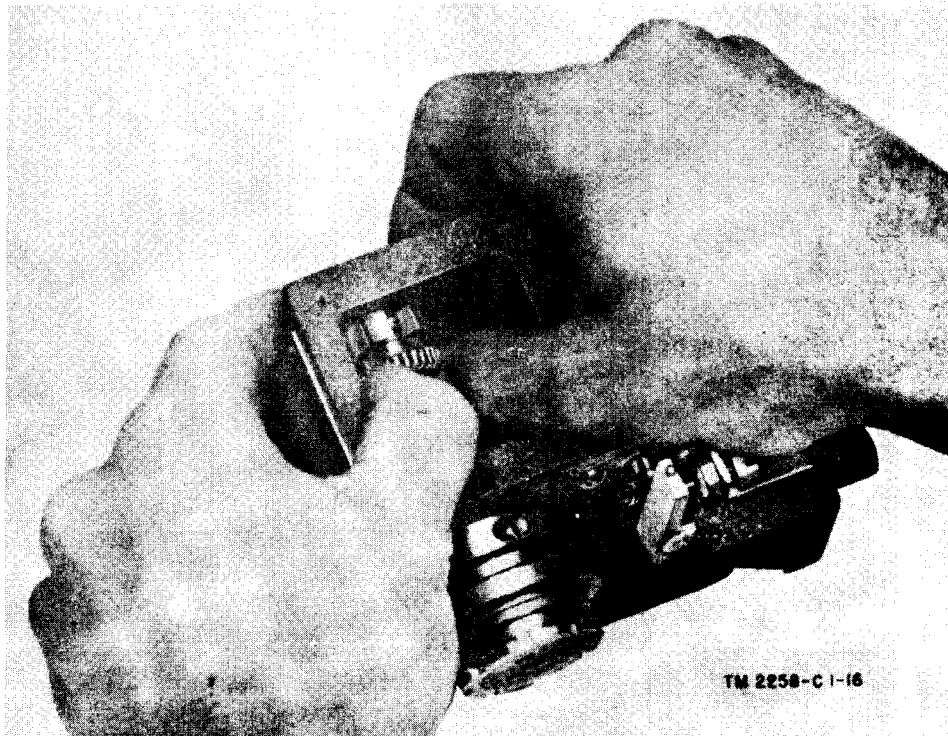

Figure 112. Placement of fingers behind the gear, to remove gear, gear collar, and bearing.
f. Remove the bearing, gear collar, and gear from the countershaft with finger pressure applied as shown in figure 112.